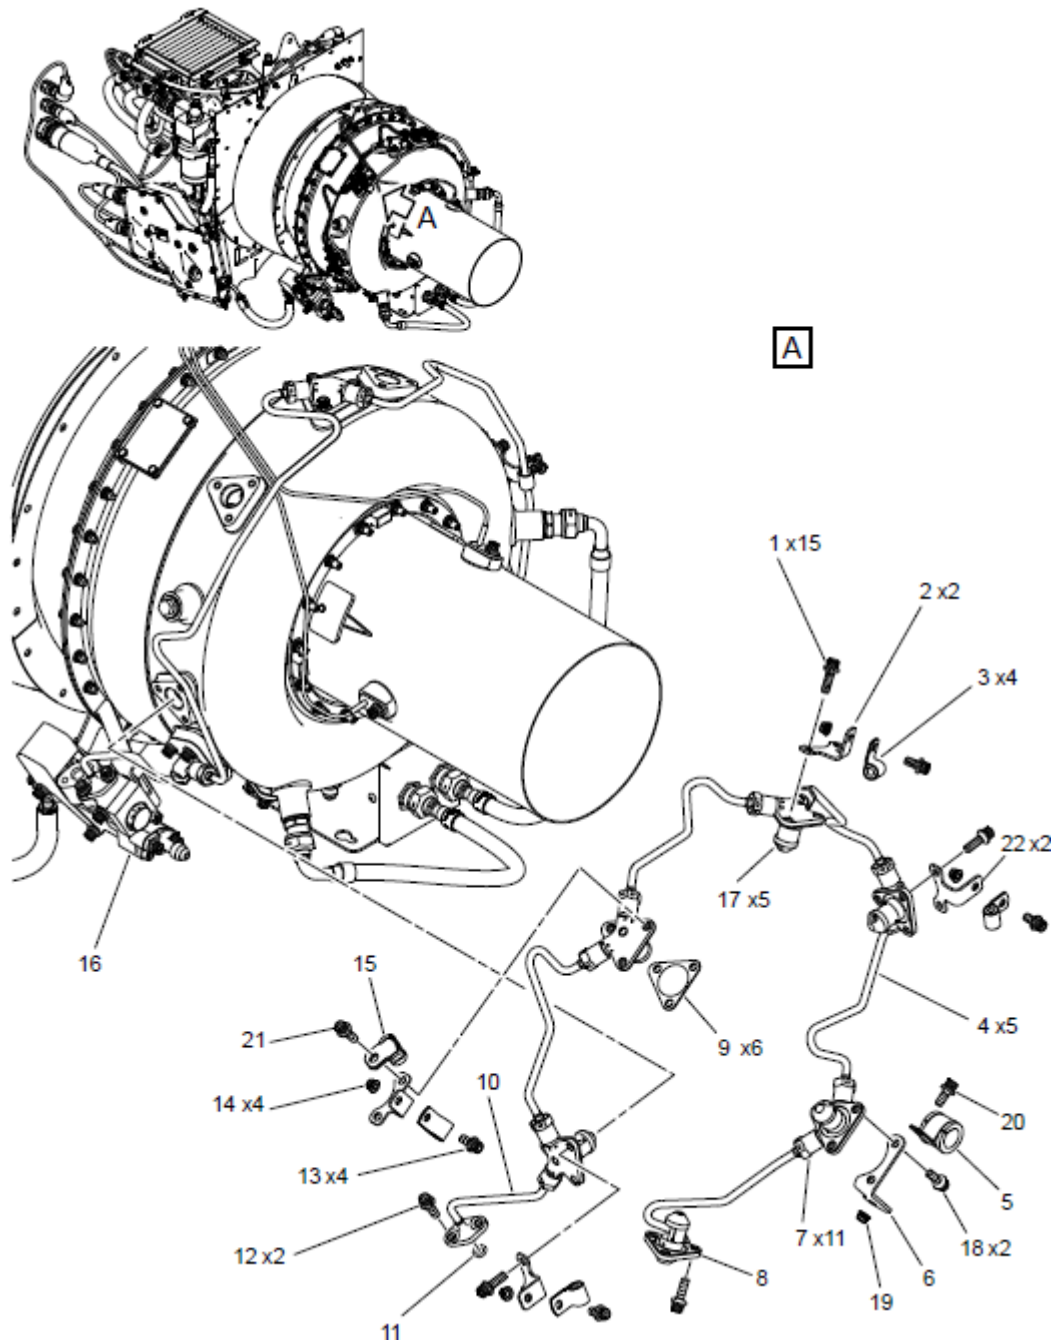

Figure 1 : Burner manifold - Remove procedure
Cut and remove the safety wire from the 11 burner manifold nuts (7, Figure 1).
Tighten by hand the 15 Screws (1, Figure 1), the Screw (21) and the 2 Screws (18).
3. Tighten by hand the 11 nuts (7, Figure 1) of the five fuel lines (4, 10).
4. Torque the eight screws (1) to 5 Nm (44.254 lbf.in) with a standard torque wrench or a special torque wrench (M25740).